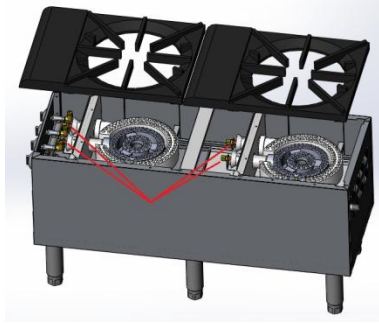

Fig.7
1. Take out the grate on the top. You can see the orifice is on front of the burner as below Fig.7 show.